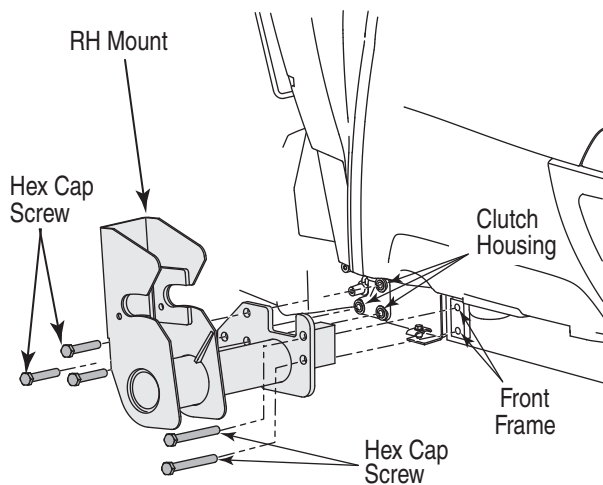

Figure 3
- Look at the RH mount (1) to note the configuration of the holes on the mounting plate of the assembly.
- From the right side of the tractor, locate the three holes in a triangular pattern on the tractor's clutch housing, and the two vertical holes on the front frame. Remove the protective plugs from the holes. See Figure 3.
- Lift the RH mount (1) and carefully place against the tractor, aligning its holes with the holes in the tractor's clutch housing and frame.
- Insert three hex cap screws (5) through the RH mount and thread into the clutch housing. Insert two hex cap screws (6) through the front of the mount and thread into the frame. In a staggered pattern, evenly tighten the five hex cap screws to secure the RH mount. Torque the screws to 145 - 167 ft. lbs. (196-225 N•M). Refer to Figure 3.
- Lift the LH mount (2) and carefully place against the tractor, aligning its holes with the holes in the tractor's clutch housing and frame.
- Insert three hex cap screws (5) through the LH mount and thread into the clutch housing. Insert two hex cap screws (6) through the front of the mount and thread into the frame. In a staggered pattern, evenly tighten all hex cap screws to secure the LH mount. Torque the screws to 145 - 167 ft. lbs. (196-225 N•M). Refer to Figure 3.